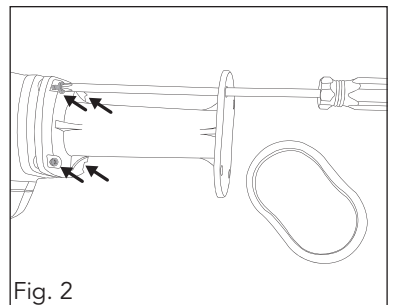

Fig. 2
1. To fit the shoulder support, first remove the shoulder support pad (6) on the rear of the shoulder support (5).
2. Using the four shoulder support screws (20) fit shoulder support in the rear of the core drill with supplied screwdriver (21) (fig. 2).
3. Re-attached the shoulder support pad (6) after securely tighten the four screws.